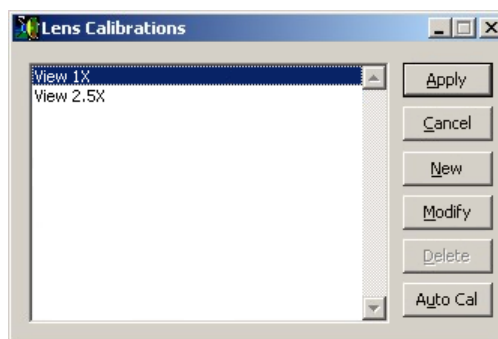

Figure 8-5 Lens Calibrations Window
3. Select **Setup / Calibration** in the VMS main menu to display the Lens Calibrations window (see Figure 8-5).